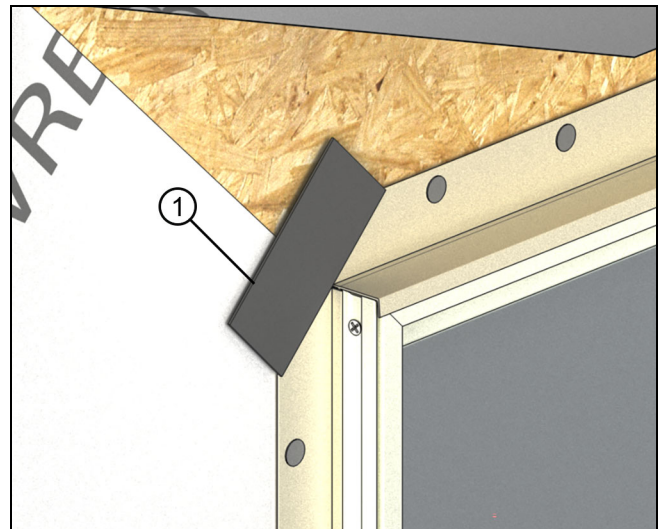

Figure 34
1. On units that use nailing fin, apply a 2" x 4" strip of flashing material at 45 degrees to the corner, bridging the gap between the nailing fin. Do this at all 4 corners. See Figure 34.